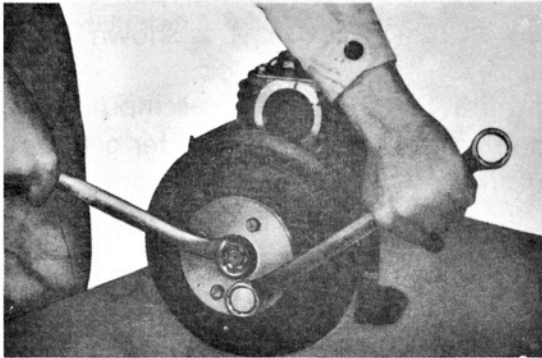

Fig. 3-3.
3) Hold the parking brake drum from turning with the aid of the special tool (preload adjuster-09922-75220) and take out the parking brake setting nut as shown in the Fig. 3-3.